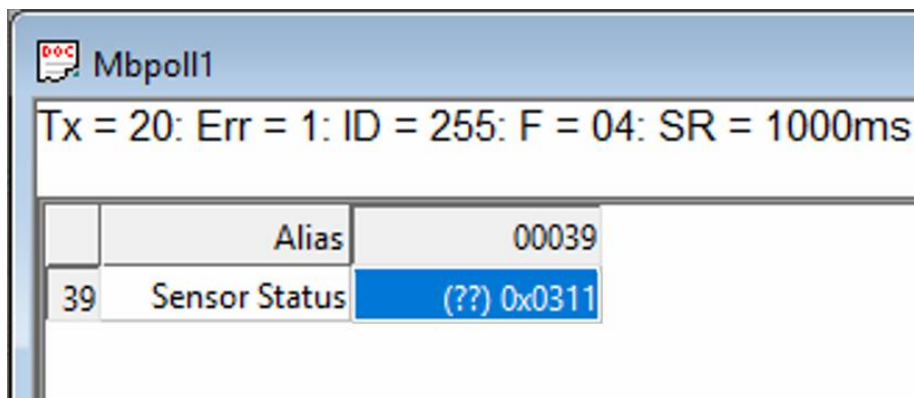

Figure 25: Sensor status example.
In the scenario described in Figure 25, **Sensor Status has a value 0x311**. Sensor error status is the combination of any bit and in this case is the combination (OR) of the following error bits: